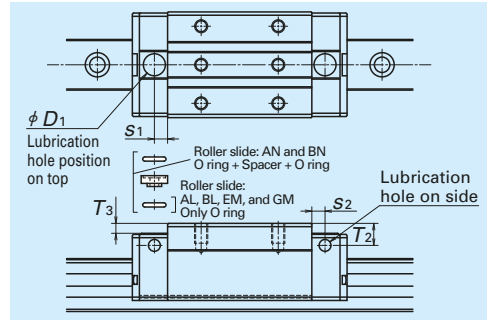

Fig.13 Top and side lubrication hole positions
- A lubrication hole can also be provided on the top of the end cap. **Fig.13**, **Table 9** and **Table 10** show the mounting position O-ring, and spacer requirements. A spacer is required for some roller slides. The spacers are available from NSK.